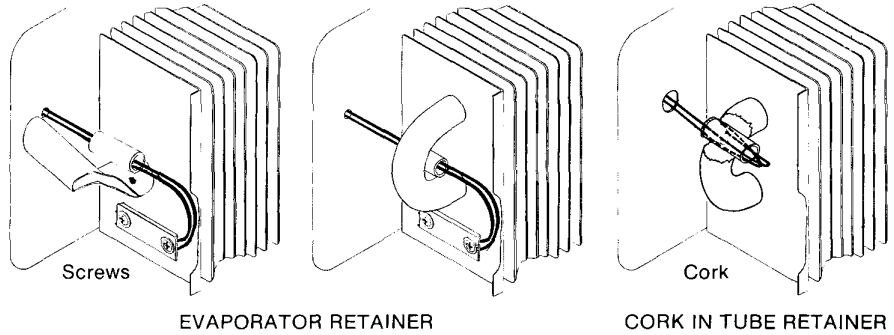

FIGURE 53 — TYPES OF CAPILLARY TUBE RETAINERS
3. Loosen capillary tubes from the retainer (**Fig. 53**) by backing the Phillips-head screws in the plate retainer out about two turns or by removing the cork from the cork and tube retainer. Straighten the capillary tubes, being careful not to crimp or break them. Pull tubes out from back of cabinet.